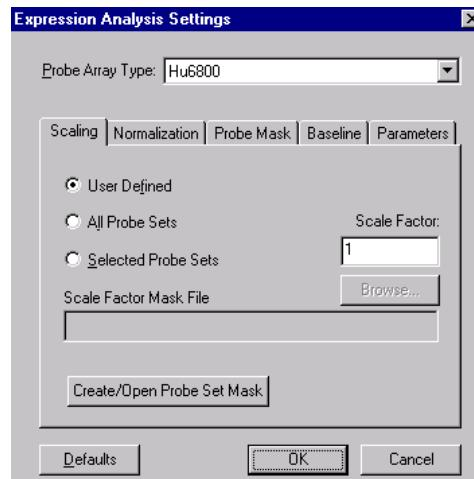

Figure 4.1.13
- **Display settings when analyzing data:** Choose this option to display the Expression Analysis Settings dialog box at the start of each analysis (Figure 4.1.13).